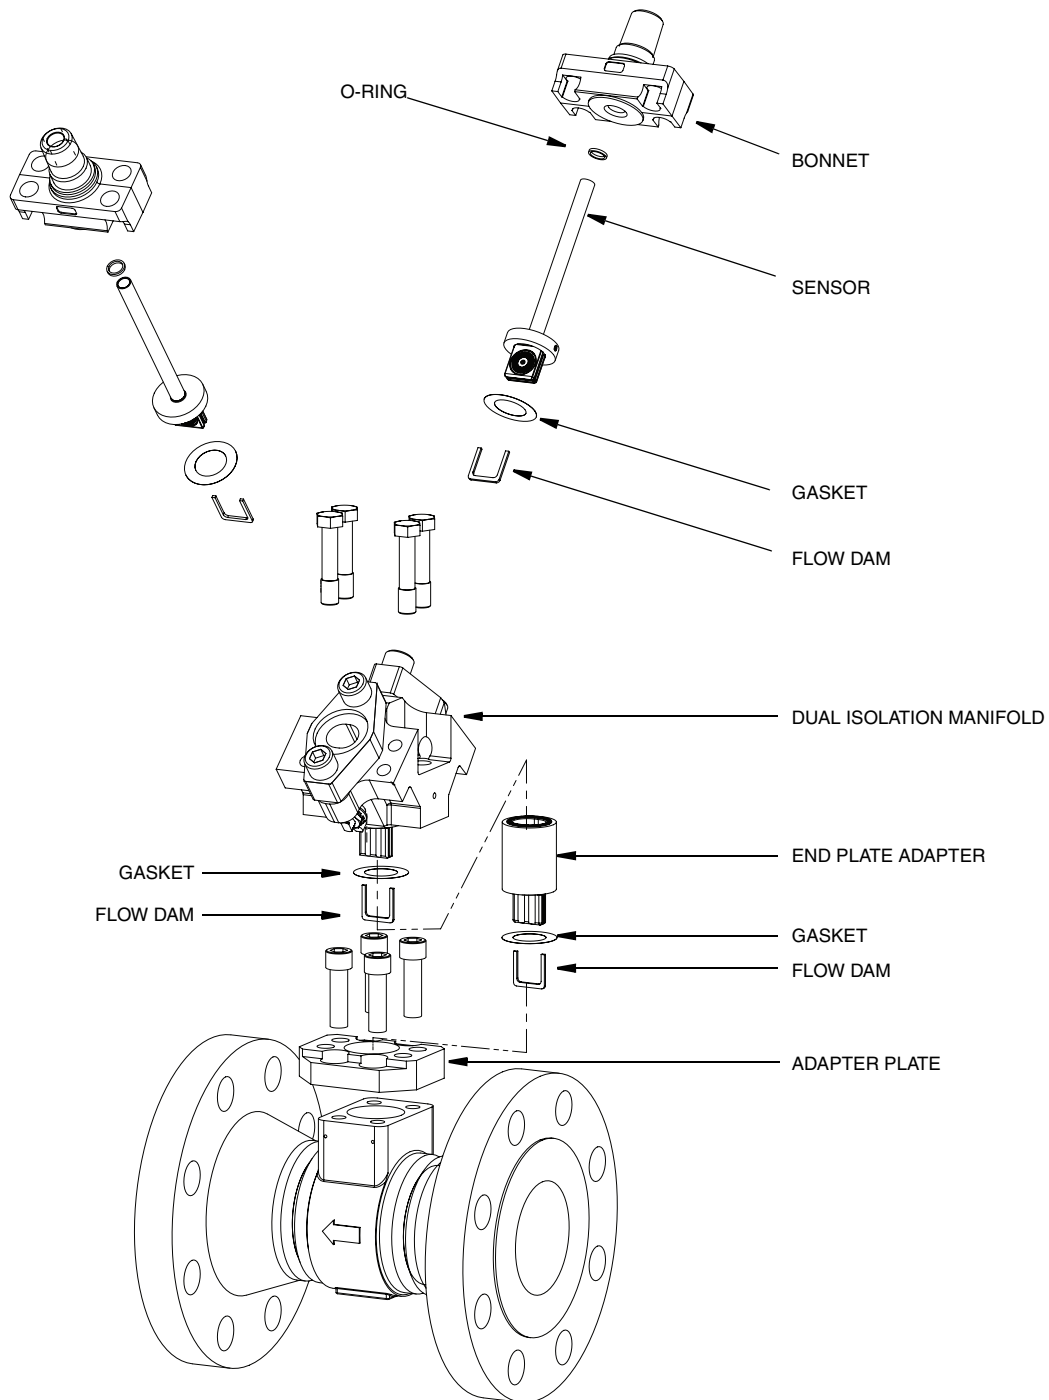

Figure 67. Dual Isolation Manifold (Style B)
4. Install a new gasket and flow dam for the end plate adapter (K0155JA), and install a new gasket and flow dam for the dual isolation manifold. These are the same gaskets and flow dams used with sensors. Refer to Figure 67.